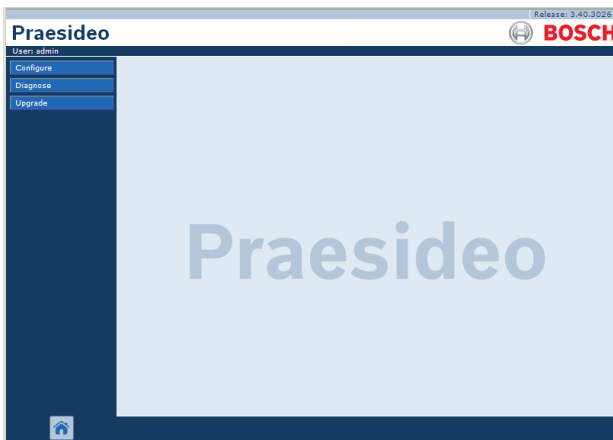

figure 36.8: Web interface start page.
- 5 Enter the user name in the *User Name* field and the password in the *Password* field and click *OK* to open the web interface. A screen similar to the one in figure 36.8 appears.